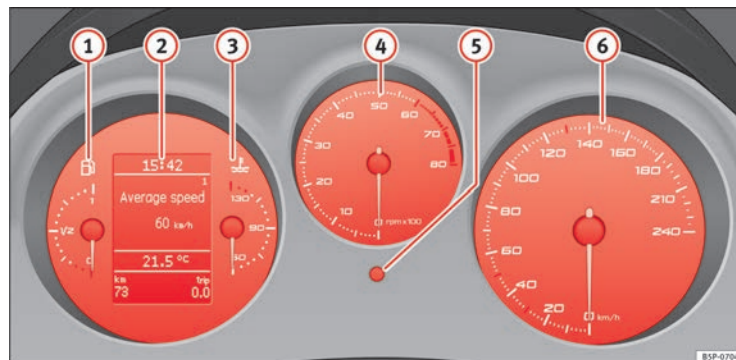

Fig. 34 Detailed view of the dash panel: instrument panel
The start of the red zone → Fig. 34 ④ indicates the maximum engine speed operating at service temperature. However, it is advisable to change up into a higher gear, move the selector lever to D or lift your foot off the accelerator before the needle reaches the red zone.
- Turn the setting knob → Fig. 34 ⑤ clockwise until the first “click” to set the hour. The hour will flash. To change the hour, press the button.